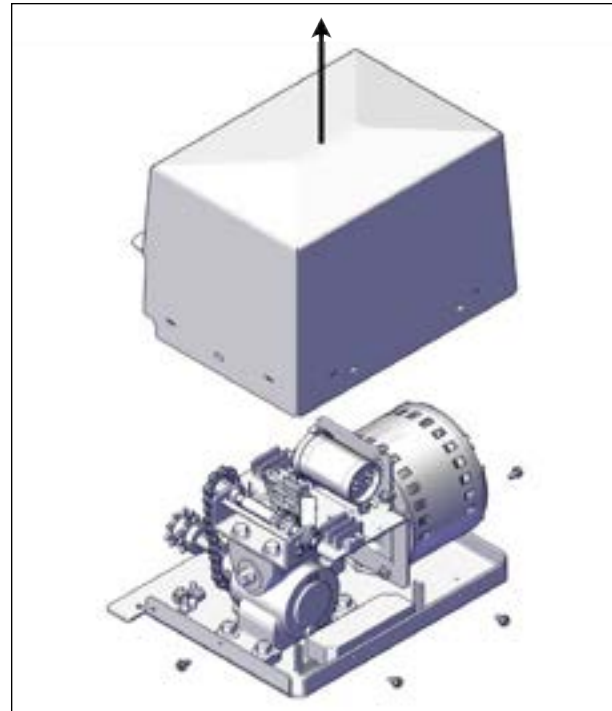

FIGURE 80: REMOVE OPERATOR COVER
1. Remove the screws (4) on the bottom side of the operator cover and remove the cover see Figure 80.
2. Remove the four slotted screws at the bottom of the operator and remove the cover Figure 80.